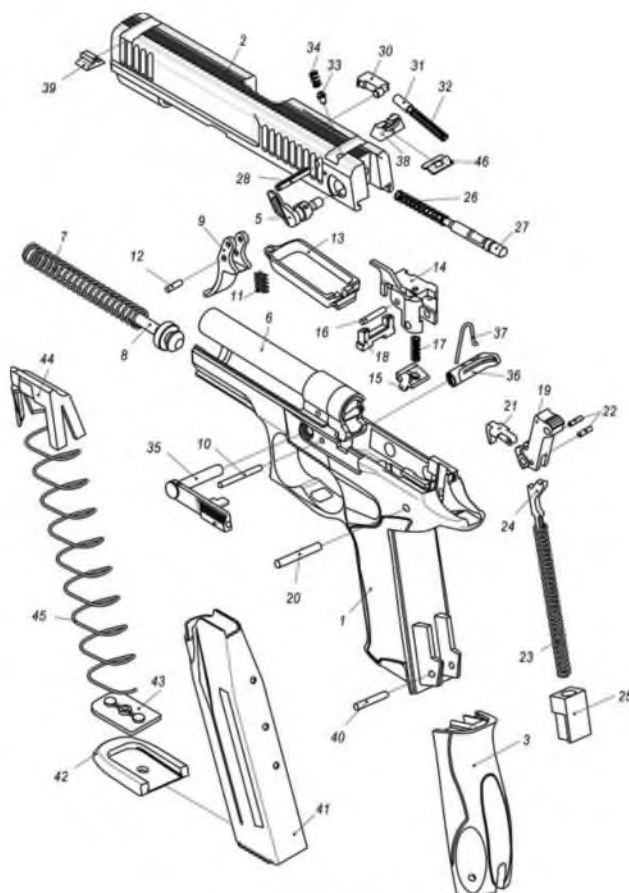
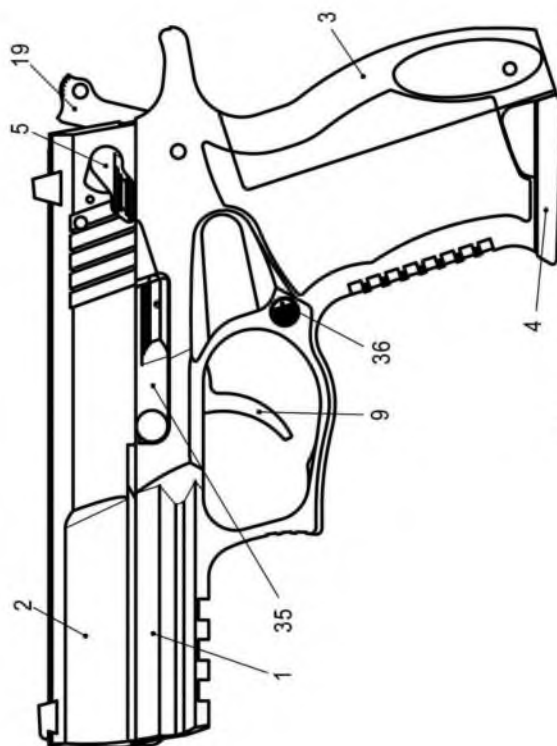

Figure 3
Figure 1
**Pistol "Fort-17R": parts list for figures 1, 2, 3**
The appearance and location of the pistol controllers are given in figures 1 and 2, and the location of the pistol parts in figure 3.